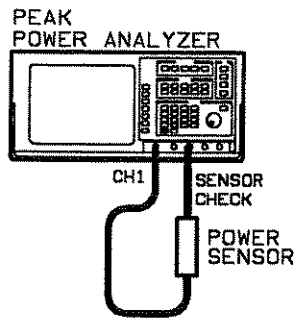

Figure 4-6. Checking Sensor Check Source Equipment Setup
1. Connect the equipment as shown in Figure 4-6.